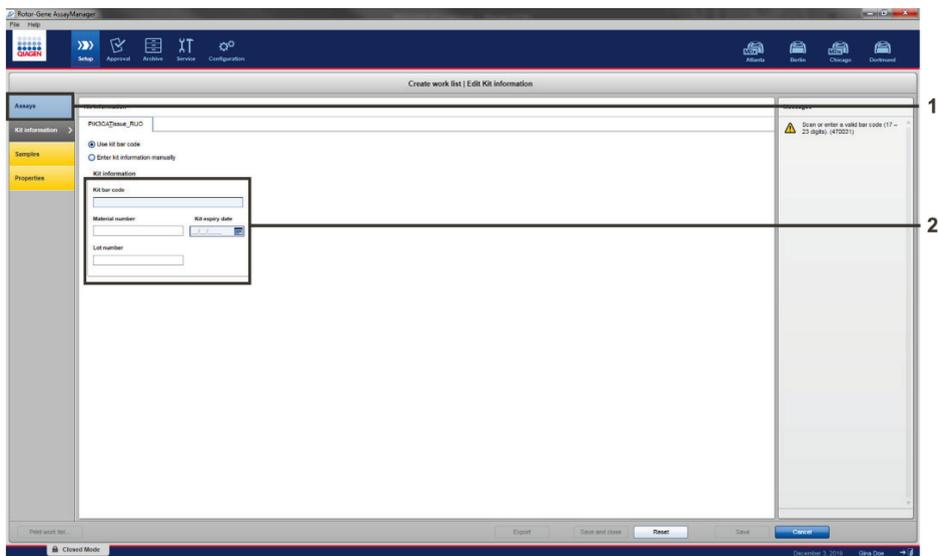

Figure 9. Create work list main window. 1 = “Kit information” tab, 2 = Enter the kit information.
17. Click the Kit information tab. Select **Enter kit information manually** and enter the following kit information (Figure 9):